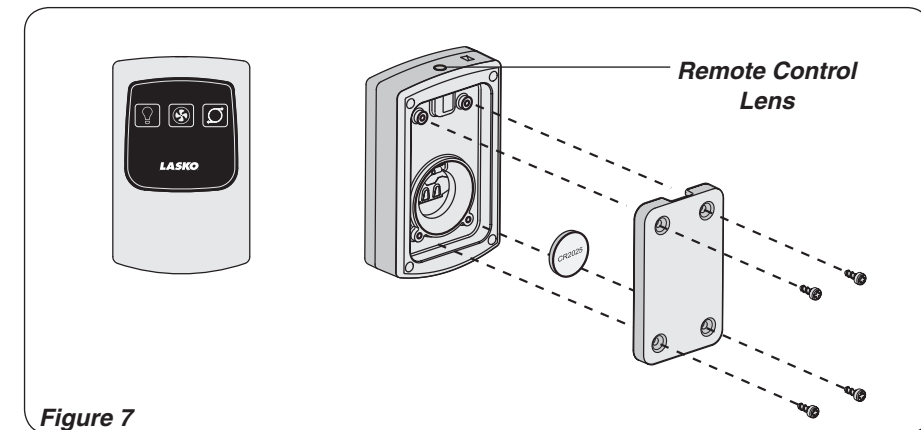

Figure 7
Remote Control (Figure 7)
1. Install CR2025 battery supplied then tighten (4) M3 X 8mm screws also supplied. (Figure 7)